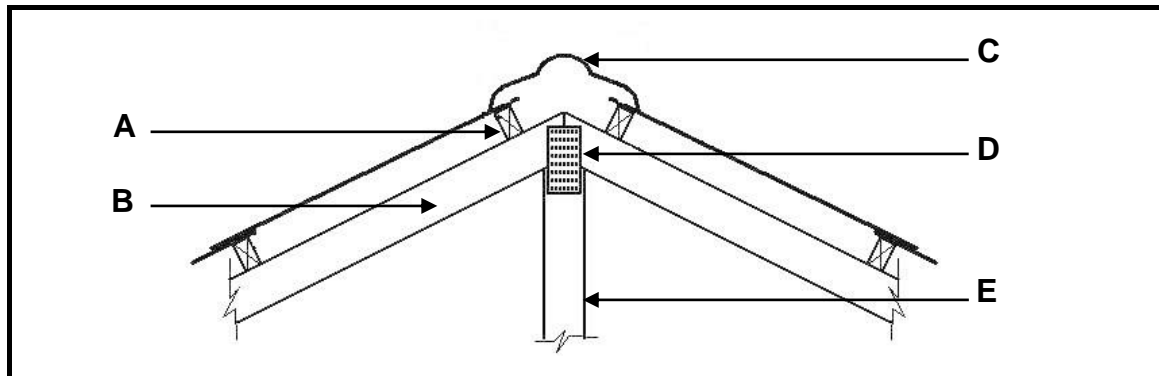

FIGURE 3.3
- 3.3 Answer the following questions on the roof truss construction in FIGURE 3.3.